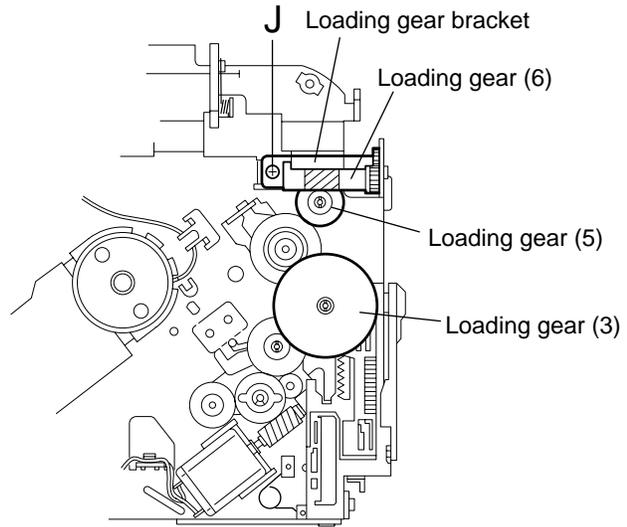

Fig.31
### ■ Removing the loading gear (5), (6) and (7) (See Fig.31 and 32)
1. Remove the screw **J** attaching the loading gear bracket. The loading gear (6) and (7) come off the loading gear bracket.
2. Pull out the loading gear (5).